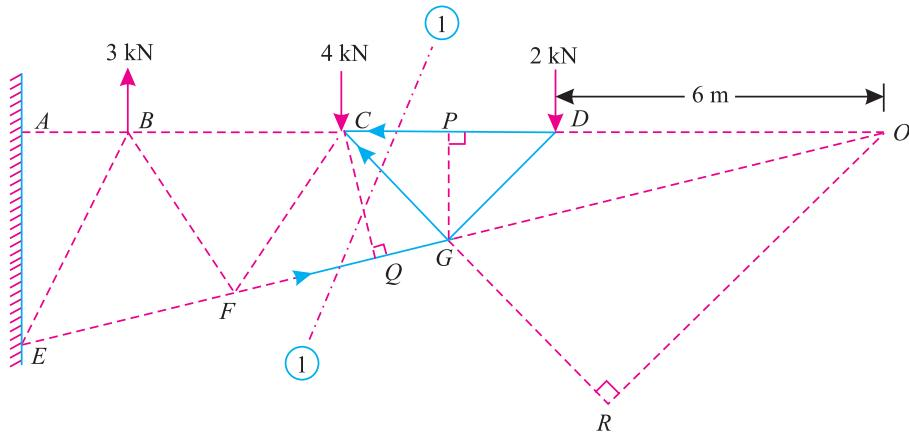

**Fig. 13.35.**
**Example 13.10.** A pin-joined cantilever frame is hinged to a vertical wall at A and E and is loaded as shown in Fig 13.35.